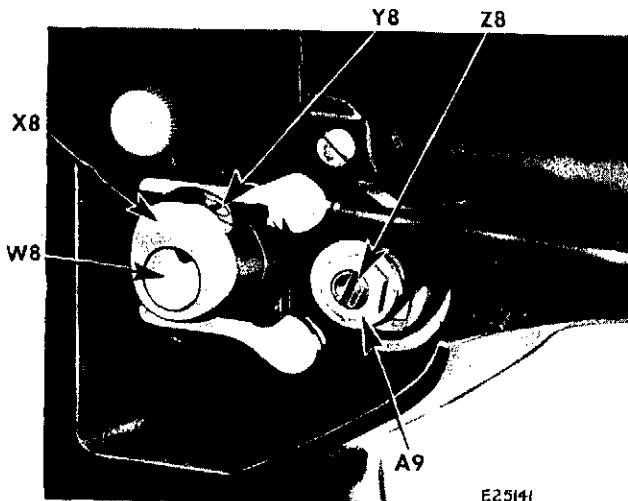
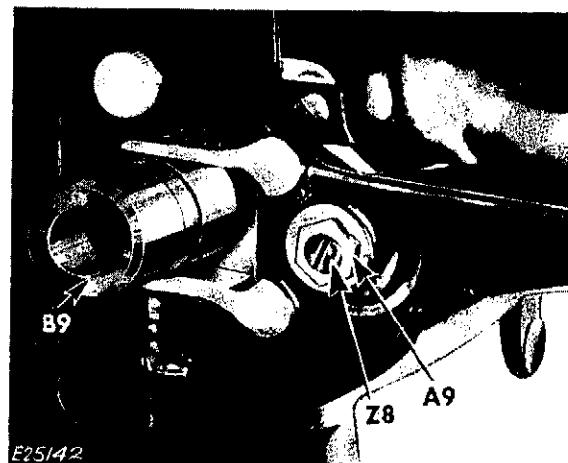

Fig. 162. Removing and Replacing Cam
Fig. 163. Using Gauge to Eliminate Needle Vibration
2. Select gauge Tool No. Serial 198351, and slip gauge on shaft as shown at **B9**, Fig. 163.
3. Loosen lock nut **A9**, Fig. 162 on fulcrum stud **Z8**.
5. Hold fulcrum stud **Z8**, Fig. 162 in position with a screwdriver to keep the correct setting obtained and carefully tighten lock nut **A9** with a wrench.
6. Remove gauge **B9**, Fig. 163 and position cam **X8**, Fig. 162 on shaft **W8** with set screw **Y8** over the notched shaft.
7. While pressing cam **X8**, Fig. 162 toward fork, push gear in Fig. 165 toward cam with a screwdriver to eliminate excessive play and noise. Securely tighten screw **Y8**, Fig. 162 without binding machine.